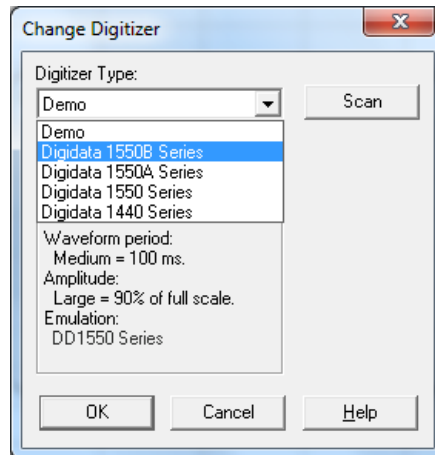

Figure 2-2: Digitizer Type Selection of Digidata 1550B digitizer
3. In the **Change Digitizer** dialog select **Digidata 1550B Series** from the **Digitizer Type** list (Figure 2-2 on page 14).